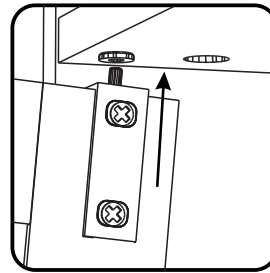

Figure 14
Insert Doors (N) and (O) Hinges into Inserts in unit. (See Figure 14)